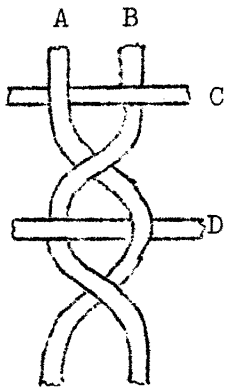

Fig.1
The general principle of all Cross Weaves is that the ends of warp are not parallel to each other, but that they "cross" each other at regular intervals. Fig.1 shows the simplest case: the first pick of weft (C) goes under warp-end A and over end B. Then before the next pick of weft is made, the two ends are crossed, or twisted around each other. They really make only half of a turn. They are kept in this position when the second pick of weft (D) is made. This pick goes over B and under A. After the second pick the ends of warp are twisted in the opposite direction (or untwisted), and this is the end of one repeat of our weave.
The weave shown in fig.1 is the basic cross-weave, properly called Gauze. The name should not be confused with so called Gauze fabrics, usually woven in tabby reinforced with some sort of size